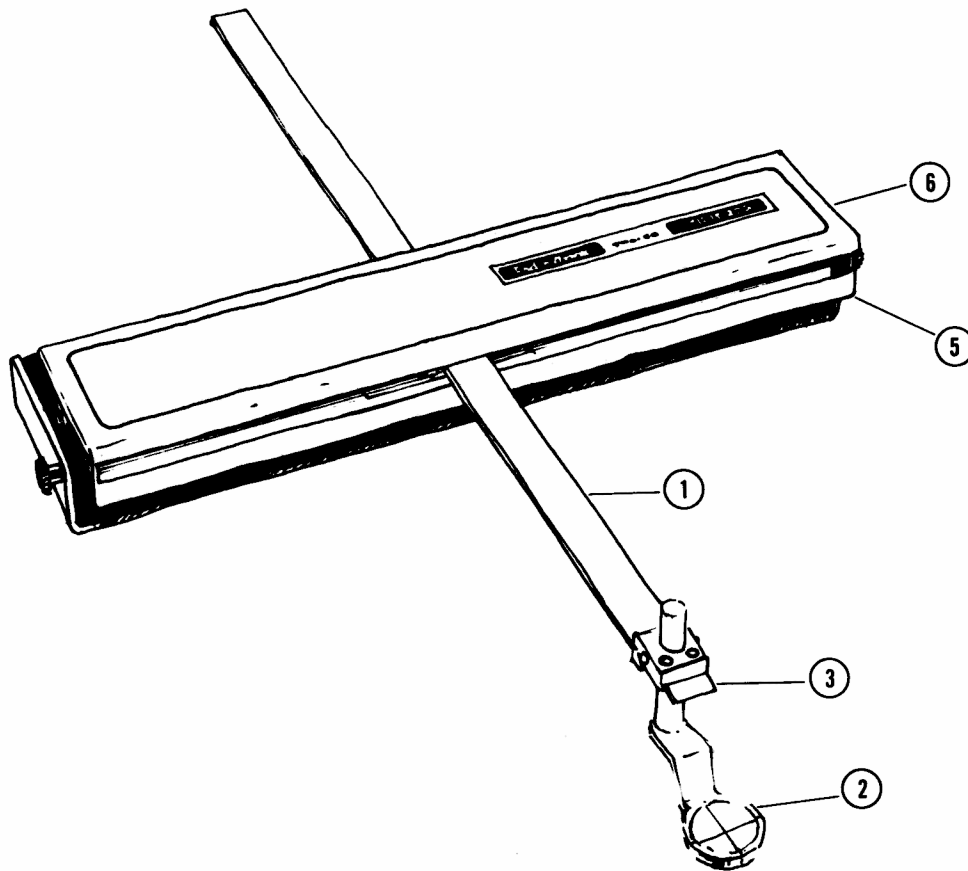

Figure 1. Digitizer (Front View)
2. Carefully remove the Cover of the Digitizer by gently pushing up on both ends (see Figure 1).